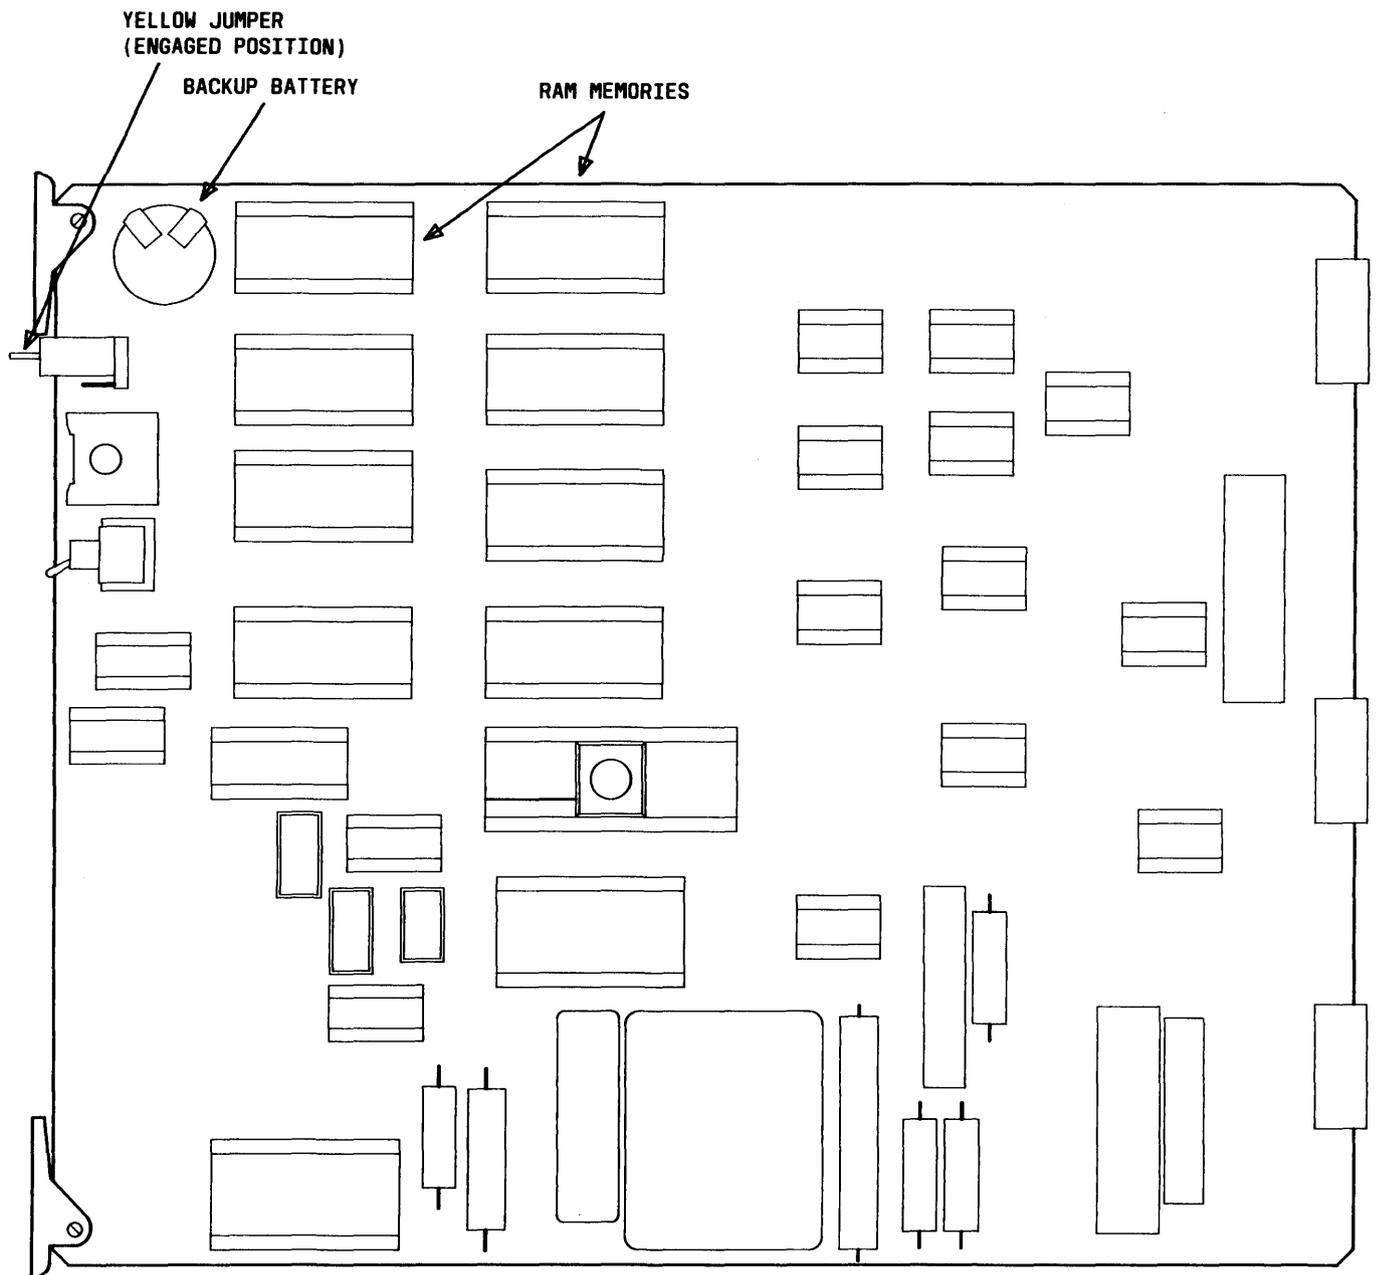

Fig. 5—UD4 VML Message Module Circuit Pack (Series 15 or Higher) With RAM Memories
2.11 Series 15 and higher message modules are a redesign of the bubble memory UD4. The main difference is that the 29A bubble memories of the bubble memory UD4 have been replaced in the newer UD4 by static random-access memories (RAMs) (Fig. 5). A battery backup gives the RAM memory UD4 the same nonvolatile message distribution to other 13A systems as the bubble memory UD4.
To engage the battery in the circuit, the yellow plastic jumper must be installed on the two upper contacts as shown in Fig. 5.
2.15 For operation of the backup battery on the UD6 RAM memory, the yellow jumper must be installed on the two upper contacts as in the UD4. (See paragraph 2.13 and Fig. 5).
- (1) Depress and hold FIELD DOWN switch on the UD3 or UD3B circuit pack until the FIELD DOWN LED lights.
- (2) Release FIELD DOWN switch.
- (3) Operate POWER switch to OFF on the UD1 circuit pack. POWER OFF LED lights.
- (4) Install message module.
- (5) Operate POWER switch to ON on the UD1 circuit pack. POWER OFF LED extinguishes.
7.08 To transfer a series 15 or higher message module with RAM memory, leave the yellow plastic jumper in the engaged position (Figure 5).